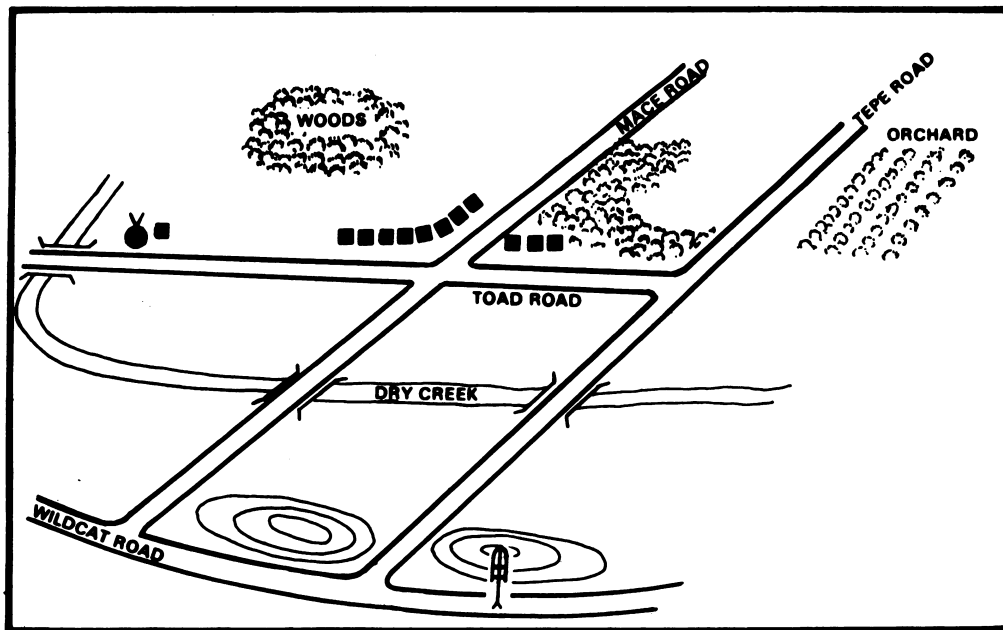

Figure 1
(1) In the lower center of your range card, indicate your firing position by drawing the symbol of your TOW. Then draw and label your sector sketch. Draw roads, bridges, buildings, streams, hills, woods, etc. Be as accurate as you can (fig. 1).